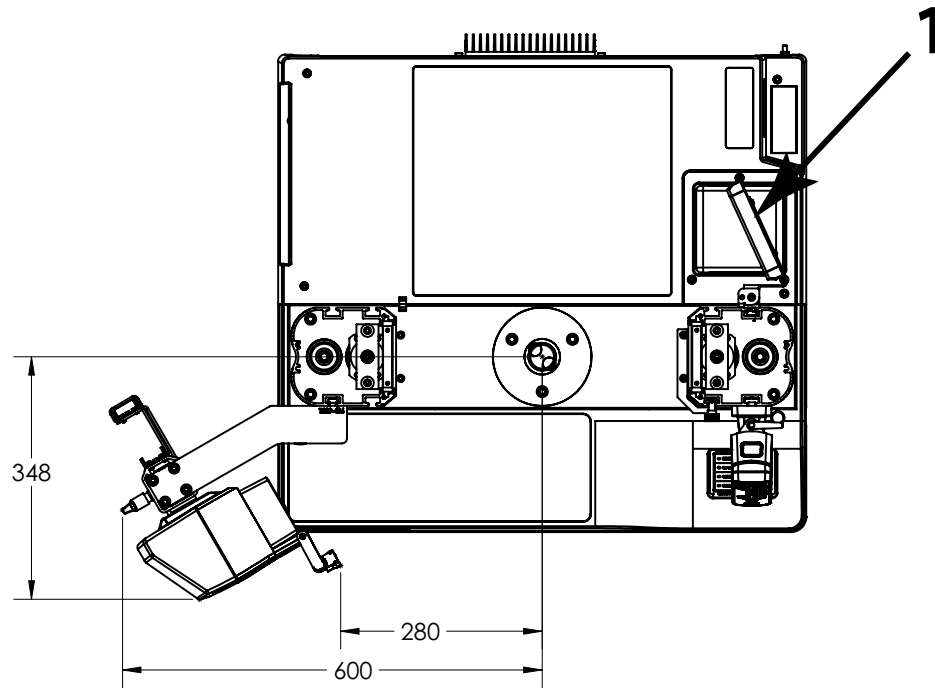

Figure 8. Footprint shown on 6800 Series testing system
Figure 8 on page 32 shows the footprint dimensions of the AverEdge32™ configuration on a 6800 Series testing system, including the back screen (1). Note that the mounting bracket and back screen are installed in the T-slot closest to the outer edge of each column.